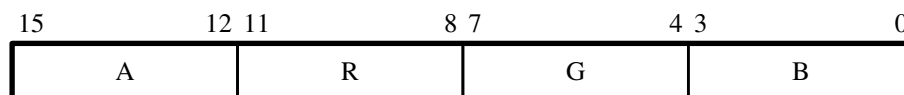

Figure 16. 16-bit RGBA Color Space.
- 16-bit RGBA — This format contains alpha values as well as RGB and uses 4 bits of each color as shown in Figure 16. This mode is defined as 4 bits per color and four color planes.